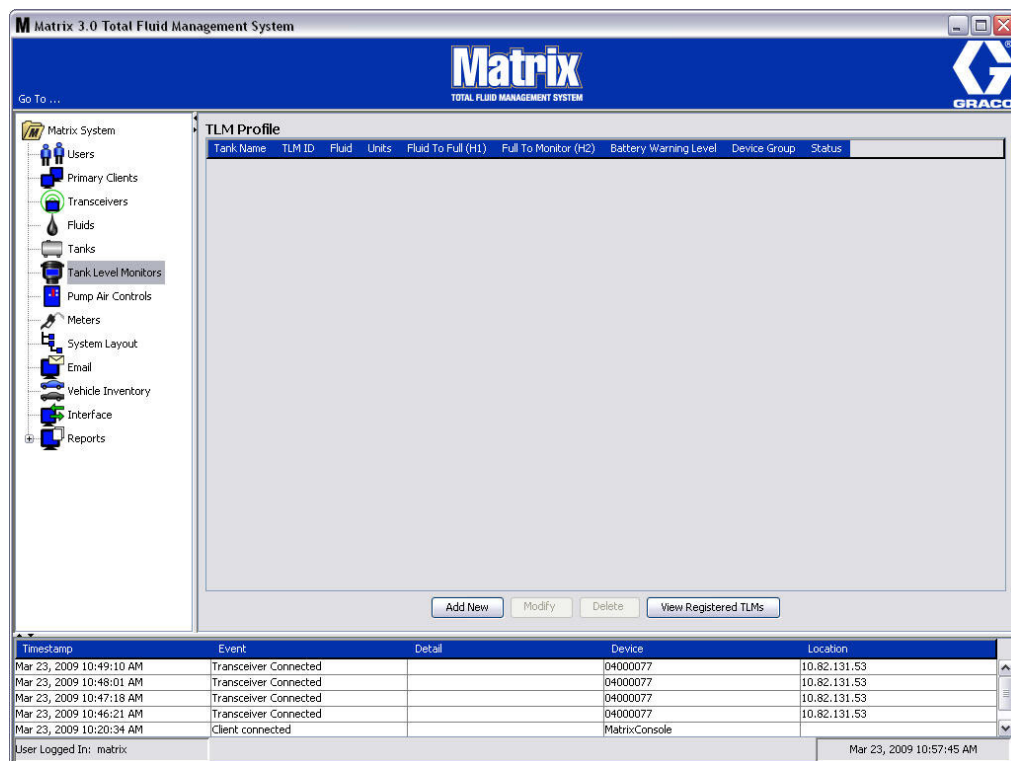

FIG. 107
The screen shown in FIG. 107 on page 85 is used to add, edit, remove and create a profile for the Tank Level Monitors (TLM's) in a Matrix system. Each Matrix tank level monitor (TLM) has embedded in it a unique device ID. The device ID is what differentiates one TLM from another.
2. To create a profile and add a new Tank Level Monitor to the Matrix system, click the Add New button (FIG. 107).